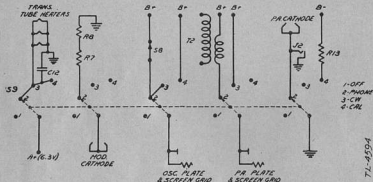

FIGURE 15.—EMISSION SELECTOR switch—functional diagram.
*h. Emission selector switch (fig. 15).—*The EMISSION SELECTOR switch S9 has five sections of four positions each. Switch S9 serves